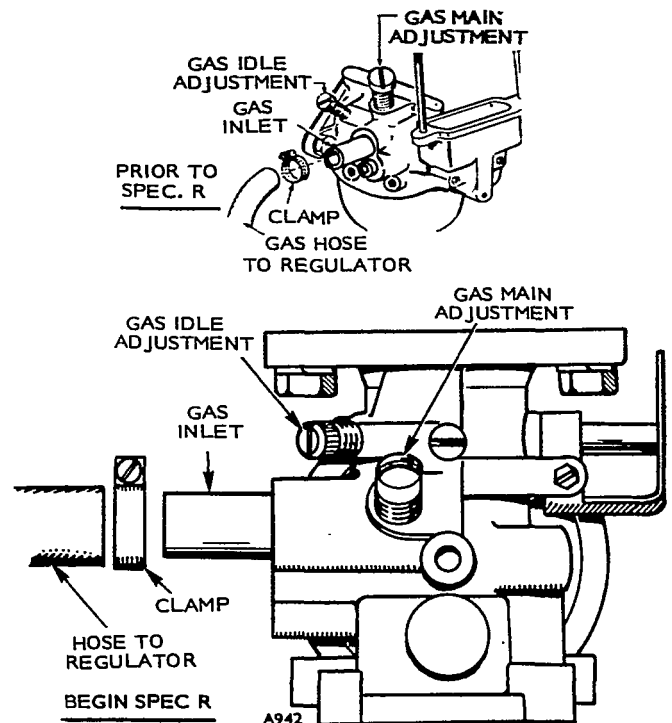
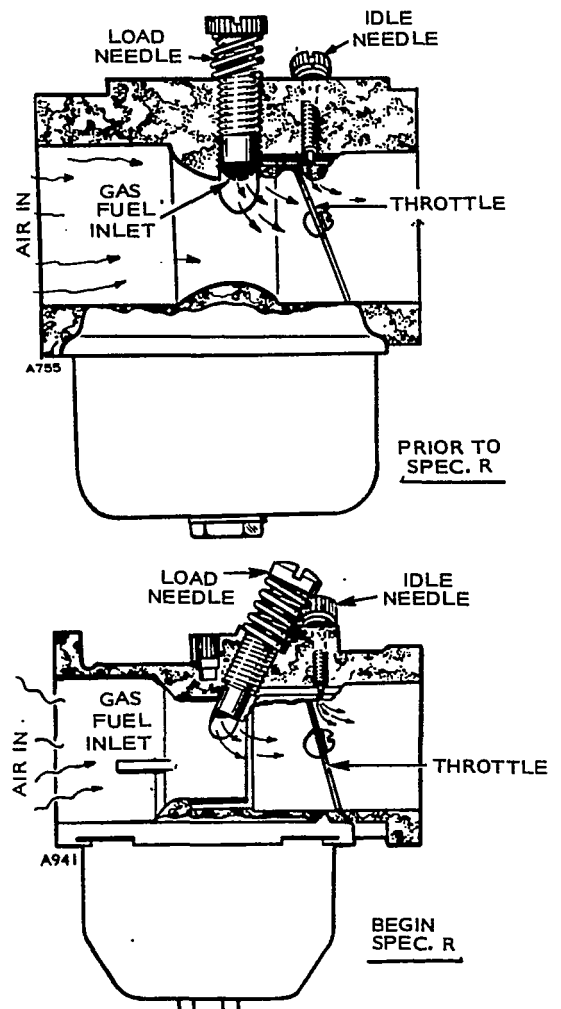

FIGURE 25. GASEOUS FUEL CARBURETOR
FIGURE 26. GASEOUS FUEL ADJUSTMENTS
The gaseous fuel carburetor (Figure 25) is similar to the gasoline carburetor in shape, but it differs in operation. The gaseous carburetor contains two major sections, the idle circuit and the load circuit. Fuel delivery depends on the demand created on the fuel inlet line, Figure 26. A small vacuum on the inlet line opens the fuel regulator, delivering fuel. For no-load operation, the idle adjustment controls the quantity of fuel allowed through the idle port. The throttle is almost closed, so the increased vacuum on the engine side of the carburetor draws fuel through the idle passage. When load increases, the flow of air through the carburetor draws fuel from the main fuel port located at the venturi of the carburetor.
3. Remove float bowl (and main adjustment screw begin Spec R). Figure 26.